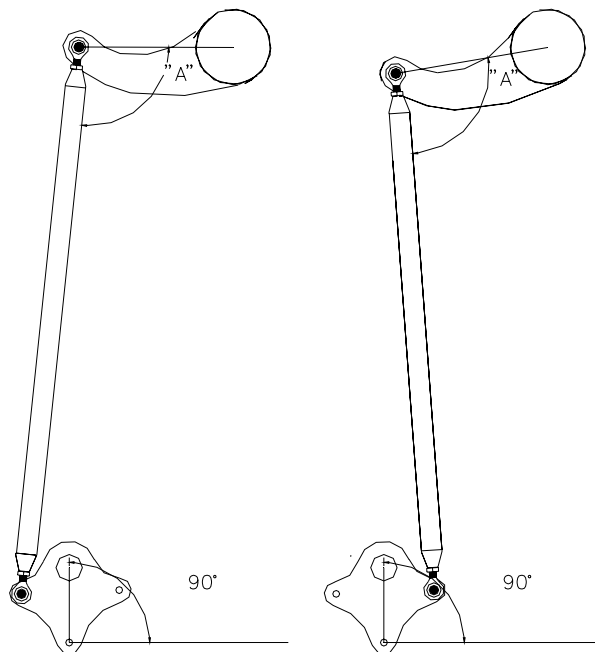

Figure 20.7.4
- 14) Adjust the push-pull tube so that the angle at the left horn is the same as the right horn. Figure 20.7.4.